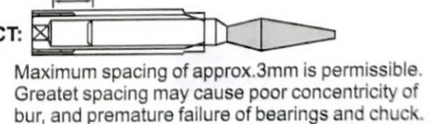

Fig. 4
- Do not run the handpiece with the bur not fully inserted (Fig. 4). Bearings may fail prematurely due to poor bur concentricity and resultant vibration.